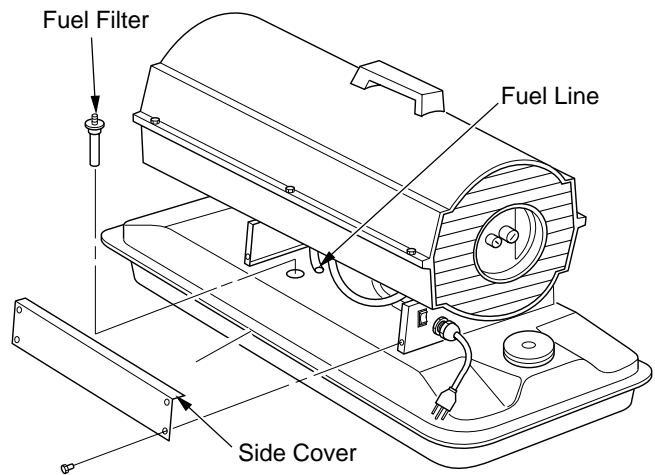

Figure 9 - Fuel Filter Removal, Model GK20
3. Remove 4 side cover screws with a 5/16" nut driver. Remove side cover (see Figure 9 or 10, page 8).
12. Replace side cover (see Figure 9 or 10, page 8).